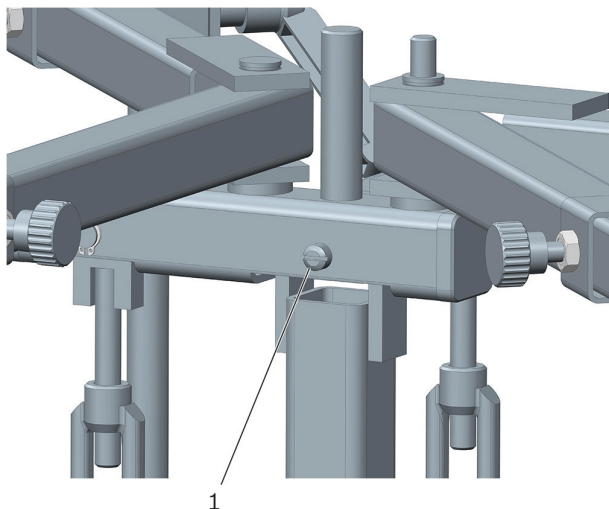

Figure 11: Position shaft screw 1, shaft screw 2 opposite each other (covered)
- ▶ Ensure orderly screw connection of the shaft screws (2 pieces) in the swivel range of the gearbox support (see figure 11).